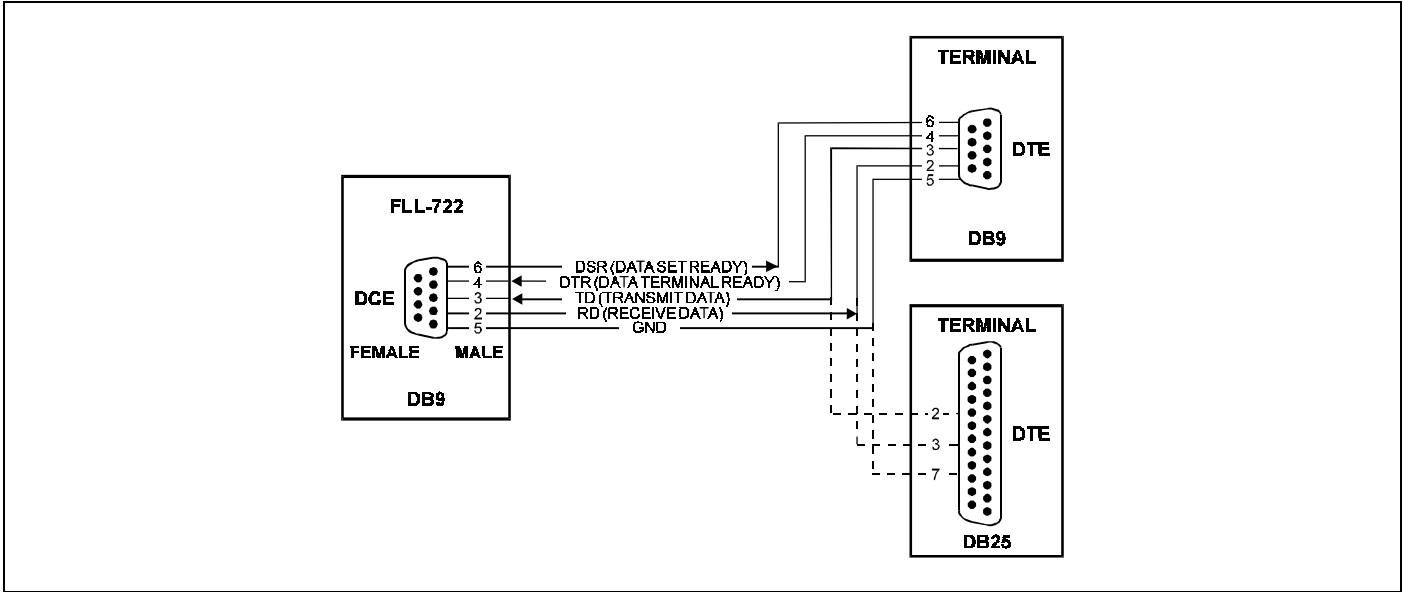

Figure 4. FLL-722 DB-9 Pin Outs. A standard RS-232 (DB-9) connector on the front panel provides access to the menu interface feature via a dumb terminal.
8.01 The terminal management function of the PG-Flex enables a technician to manage the entire PG-Flex system through an ASCII terminal (or modem) connected to the maintenance port at either the CO or the RT. The pin-outs for the standard RS-232 (DB-9) maintenance port connector are shown in Figure 4. With the management function, the technician can view system status, set configuration parameters, conduct testing, monitor performance, and obtain an inventory report.